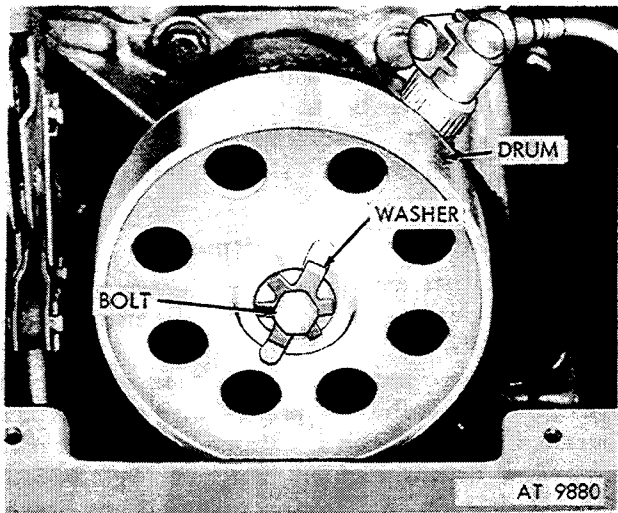

Figure 2-361. Remove parking brakedrum.
- (1) Remove parking brake band (para 2-168).
- (2) Remove tab washer, bolt and flat washer securing parking brakedrum to transmission output shaft (fig. 2-361).